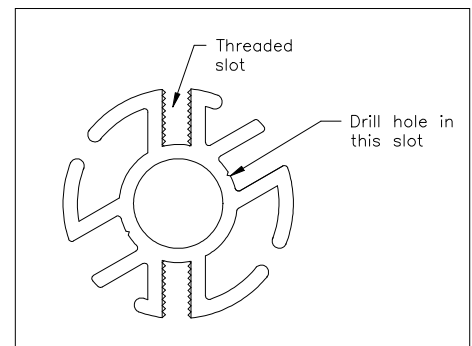

FIGURE 1
- 2) Drill a 5/16" hole, 1/2" from each end of the rollerbar. Start the hole in one of the smooth-sided slots, **not** a threaded slot (see Figure 1).